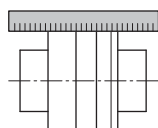

Fig. 11: Checking the radial alignment with a ruler
- Alternatively, the radial coupling alignment can also be checked with a ruler (see fig. 11).